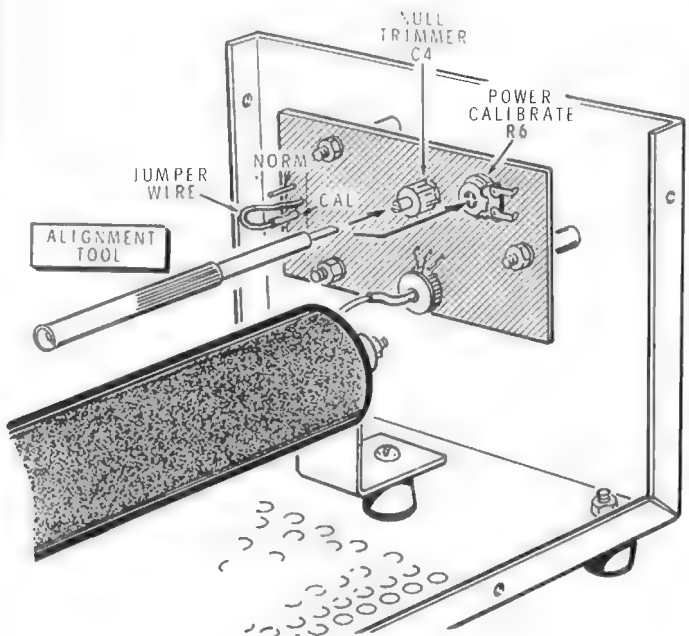

Figure 2
- () Connect the CALIBRATION jumper on the circuit board to the CAL pin (see Figure 2).
- () Refer to Figure 2 and adjust NULL trimmer C4 on the circuit board for the best null or greatest dip of the meter needle. This reading should be at or near zero. NOTE: Use only the alignment tool (nut starter) for this adjustment.